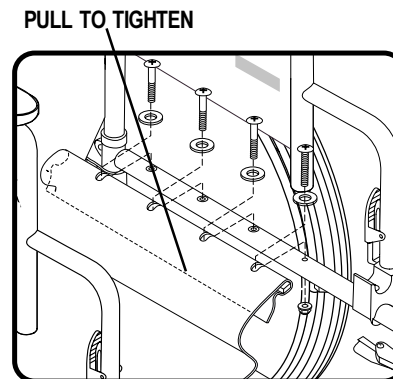

Figure 23. Seat Tension Adjustment
1. Loosen the screws that attach the seat to the side rail on the left side (side with hook and loop). See figure 23.